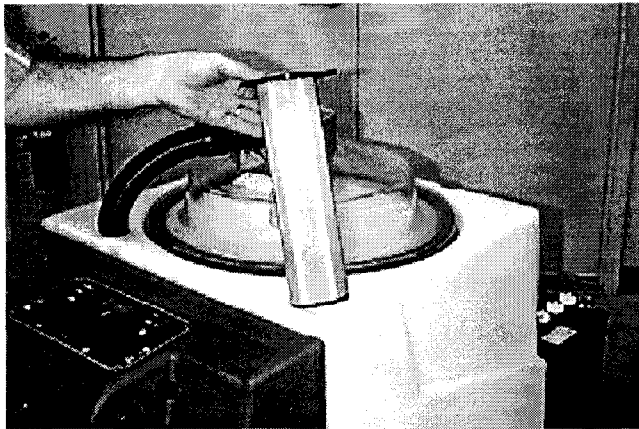

FIG. 32.
1. Locate water fill port and remove solution tank filter from inside fill port. (Figure 32)